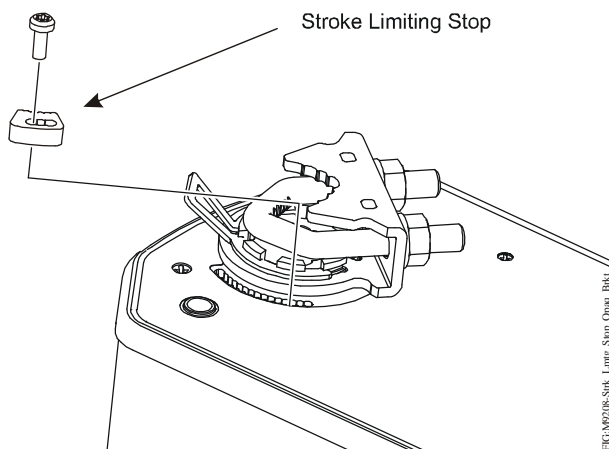

Figure 8: Limiting Rotation Range
3. The product label marks hole positions for the M3-0.5 x 8 mm self-tapping screw provided with the adjustable stop kit. Drive the screw through the slot in the adjustable stop and into the actuator face over a marked hole position. (See Figure 8.)